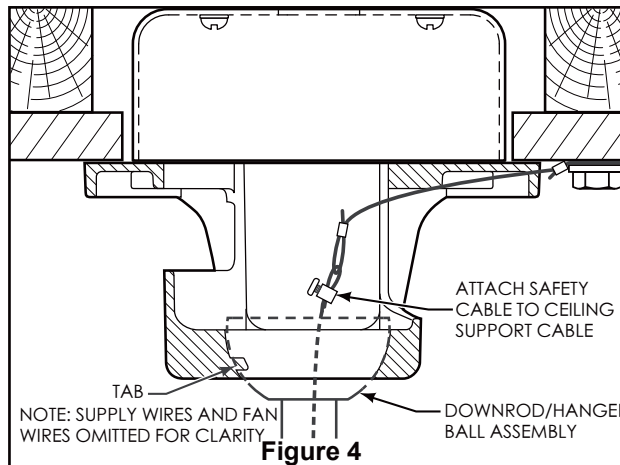

Figure 4
4. Carefully lift the fan and seat the downrod/hanger ball assembly on the hanger bracket that was just attached to the ceiling joist. Be sure the groove in the ball is lined up with tab on the hanger bracket. (Figure 4)
5. Attach the safety cable to ceiling support cable. Slide cable clamp onto safety cable (from fan). Place the end of cable through the loop of ceiling support cable. Pull as much cable through loop as possible. Feed end of cable into clamp hole and firmly tighten screw (Figure 4). Cut off excess safety cable.
3. After connections have been made, turn leads upward and carefully push leads into the outlet box, with the white and green leads to one side of the box and the black leads to the other side. (Figure 4)
Connect the 2 single-pin connectors from the LED assembly to the 2 single-pin connectors from motor assembly. (Figure 4 )
- 4.** To set the remote code with a small screwdriver or ball point pen (neither included), slide dip switches firmly up or down. (Figure 4)